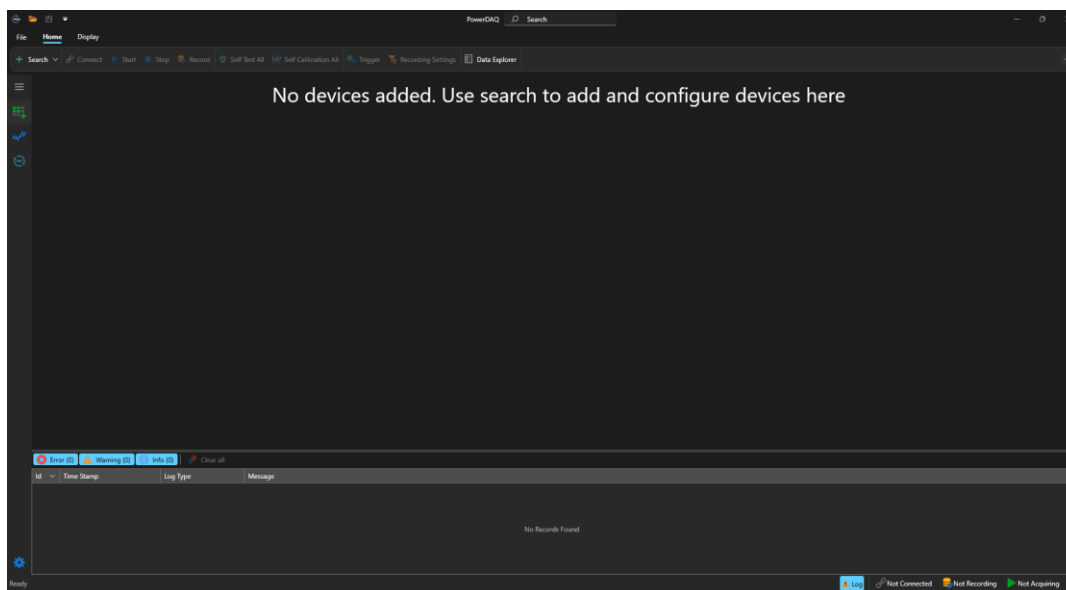

Figure 15. Main Screen with no Devices
1. Before devices are added, the main screen will appear, as shown in Figure 15.